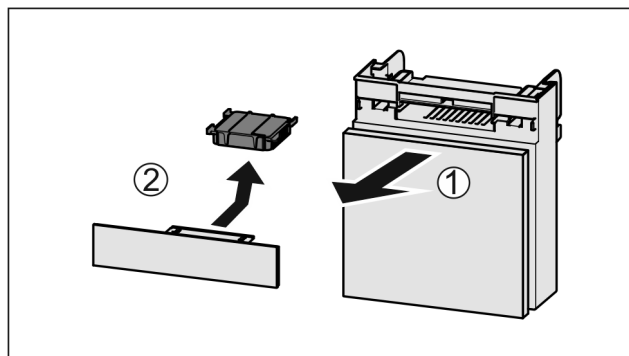

Fig. 146
- Pull out the compartment Fig. 146 (1).
- Remove the carbon filter Fig. 146 (2).